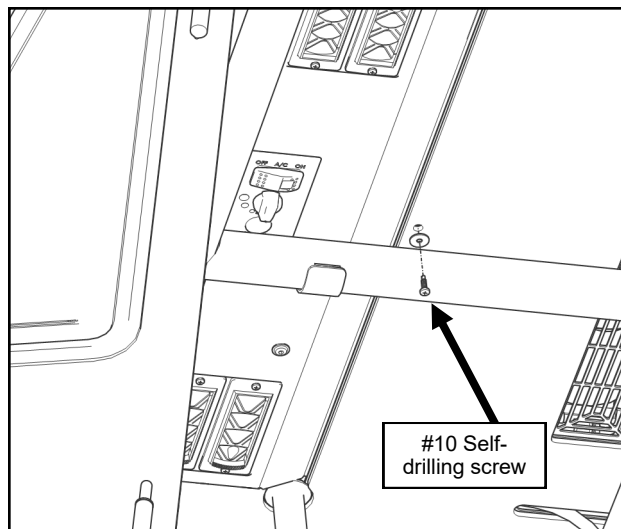

Fig. 5.4 (Self-Drilling Screw)
- 5.4** Locate the hole in the underside of the roof, just behind the center of the vents of the A/C Unit. Install a self-drilling screw with a 3/4" washer through this hole and into the A/C Unit. See Figure 5.4.